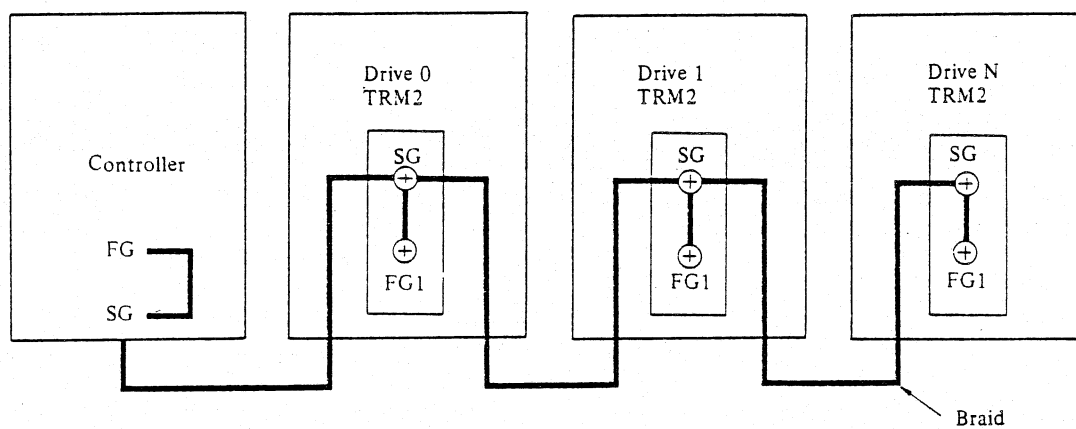

Fig. 4.3-3 SG/FG1 Common
- (b) Connect SG to FG1 with the shorting plate. Connect a flat braid wire from SG to controller ground. If daisy-chained, daisy-chain the braid from SG to SG as shown in Figure 4.3-3.
(3) AC Considerations